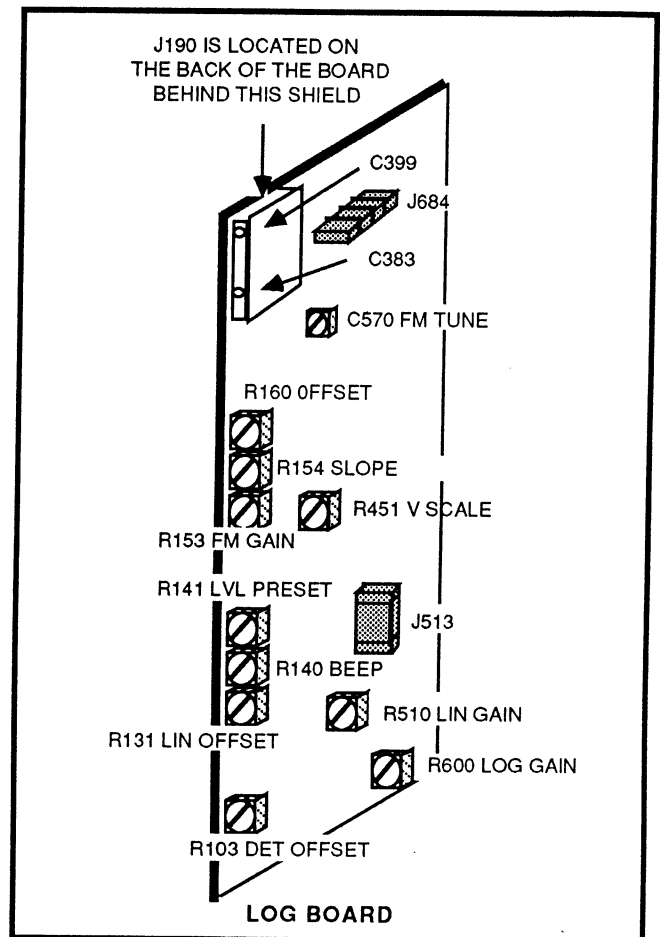

Figure 4-3. Log board adjustment and jumper locations.
- (1) 10 dB and 1 dB Step Attenuators
- (2) Signal Generator
- (3) RF Cable, bnc-to-square SMB
- a. Set R154 (Slope) and R160 (Slope Offset) fully clockwise so they will have no effect on baseline noise in MAX SPAN. See Figure 4-3 for the locations of adjustments.
- (1) Signal Generator (10 MHz and 100 MHz)
b. Adjust R140 (Beep Level) on the Log board for desired nominal beep loudness. See Figure 4-3.